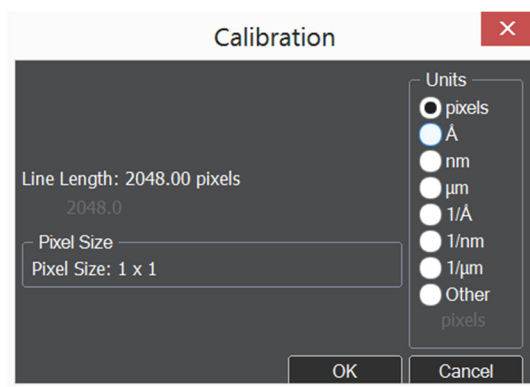

Figure 15: Calibration dialog.
- 6 Select the distance marked in the previous figure to perform the magnification calibration, in the Calibration dialog, as shown in Figure 15.